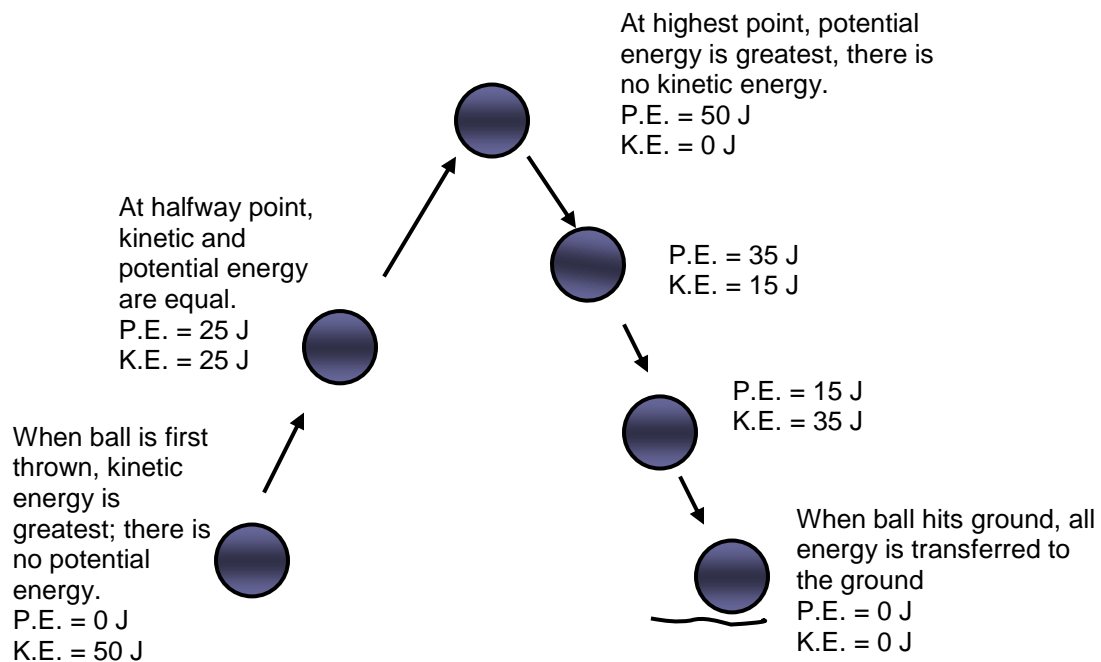

FIGURE 1: Kinetic and Potential Energy are Closely Related
As gravity pulls the ball back to earth, the potential energy is gradually changed back to kinetic energy. Once the ball hits the ground and stops, gravity can no longer cause it to move. All of the kinetic and potential energy has been transferred to the ground. See Figure 1.
- You can see from Figure 1 that the amount of kinetic energy is greatest when a ball is first thrown upwards and also just before it returns to the ground.
We saw this in Figure 1. When a ball is thrown with 50 J of kinetic energy, at every point in the trajectory there is a total of 50 J of energy acting on the ball. This is so until the 50 J of energy is transferred to the ground. If the ball was a wrecking ball, the 50 J of energy would be transferred to the walls of the building that was being demolished.